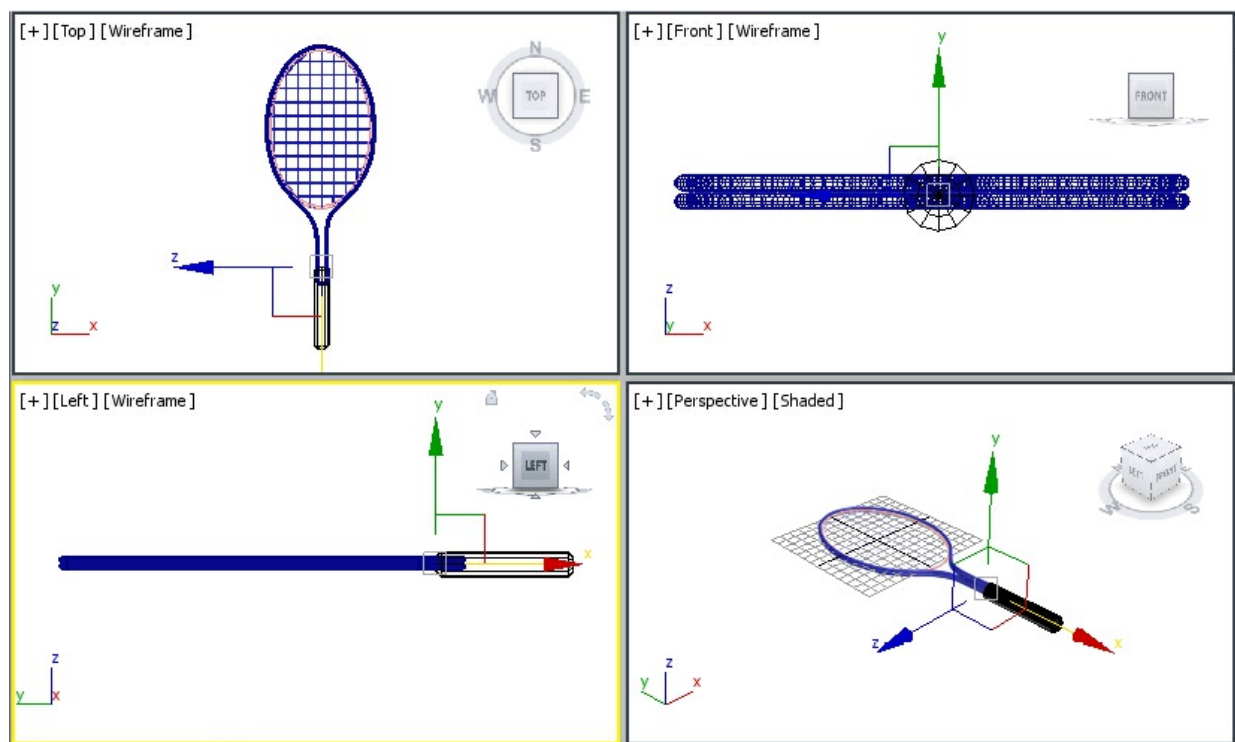

Figure 12-84 Alignment of handle in viewports
4. Align *handle* with *shaft01* and *shaft002* in viewports, as shown in Figure 12-84.